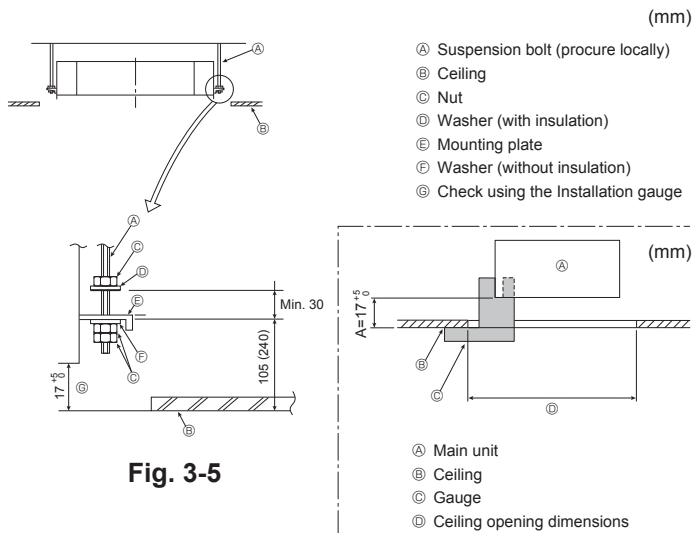

Fig. 3-5
① Wooden structures
② Ferro-concrete structures
3.5. Unit suspension procedures (Fig. 3-5)